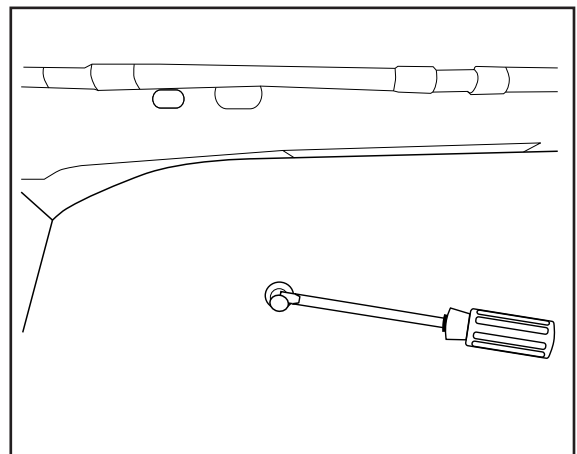

Fig. 2
3. Remove the two push-pin retainers for each side of the trunk. (Fig.2) (The push-pin retainers will not be reused).